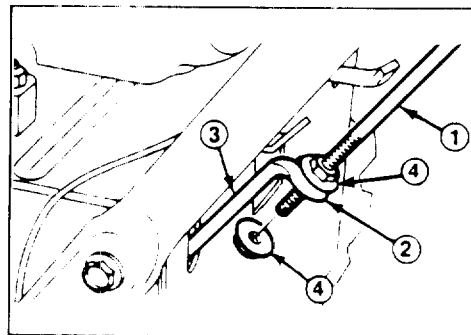

Figure 5
1. Thread a flange nut (flange side down) onto traction rod located on left handle (Fig. 5).
2. Insert traction rod through loop in lower traction rod (Fig. 5).
3. Thread a flange nut (flange side up) onto bottom of traction control rod below loop in lower traction rod (Fig. 5).